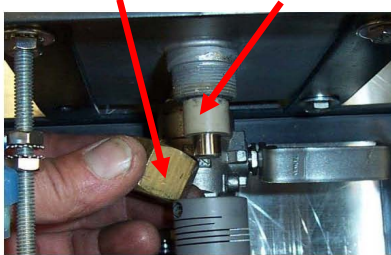

Figure 7
11. Remove the Brass Packing Nut and the PEEK bushing (Figure 7).